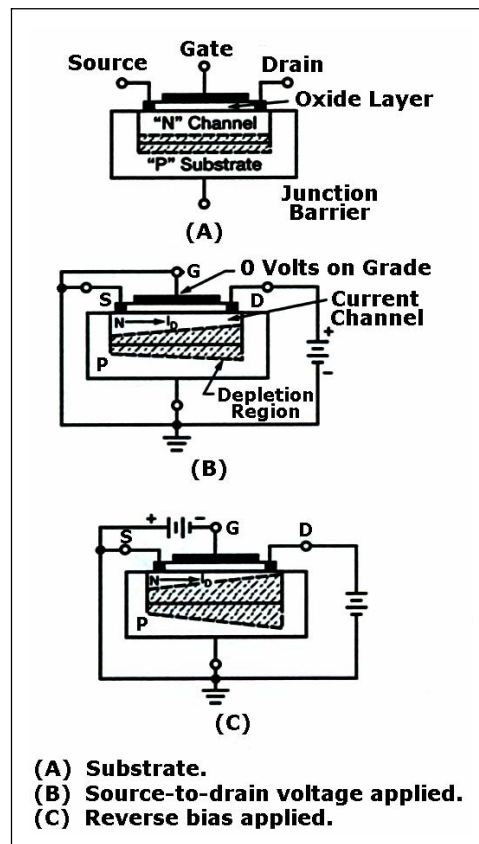

Figure 3-54. Effects of Reverse-bias Voltage (MOSFET in Depletion Mode)
3-91. The operation of the MOSFET, or IGFET, is basically the same as the operation of the JFET. The current flow between the source and drain can be controlled by using either one of two methods or by using a combination of the two methods. In one method the drain voltage controls the current when the gate potential is at zero volts. A voltage is applied to the gate in the second method. The gate voltage that affects the current flow in the channel by either depleting or enhancing the number of current carriers available forms an electric field. Remember, a reverse bias applied to the gate depletes the carriers and a forward bias enhances the carriers. The polarity of the voltages required to forward or reverse bias a MOSFET depends upon whether it is of the P-channel type or the N-channel type. Figure 3-54, views (A), (B), and (C) shows the effects of reverse-bias voltage on a MOSFET designed to operate in the depletion mode. The amount of reverse bias applied has a direct effect on the width of the current channel and thereby, the amount of drain current (I_D).